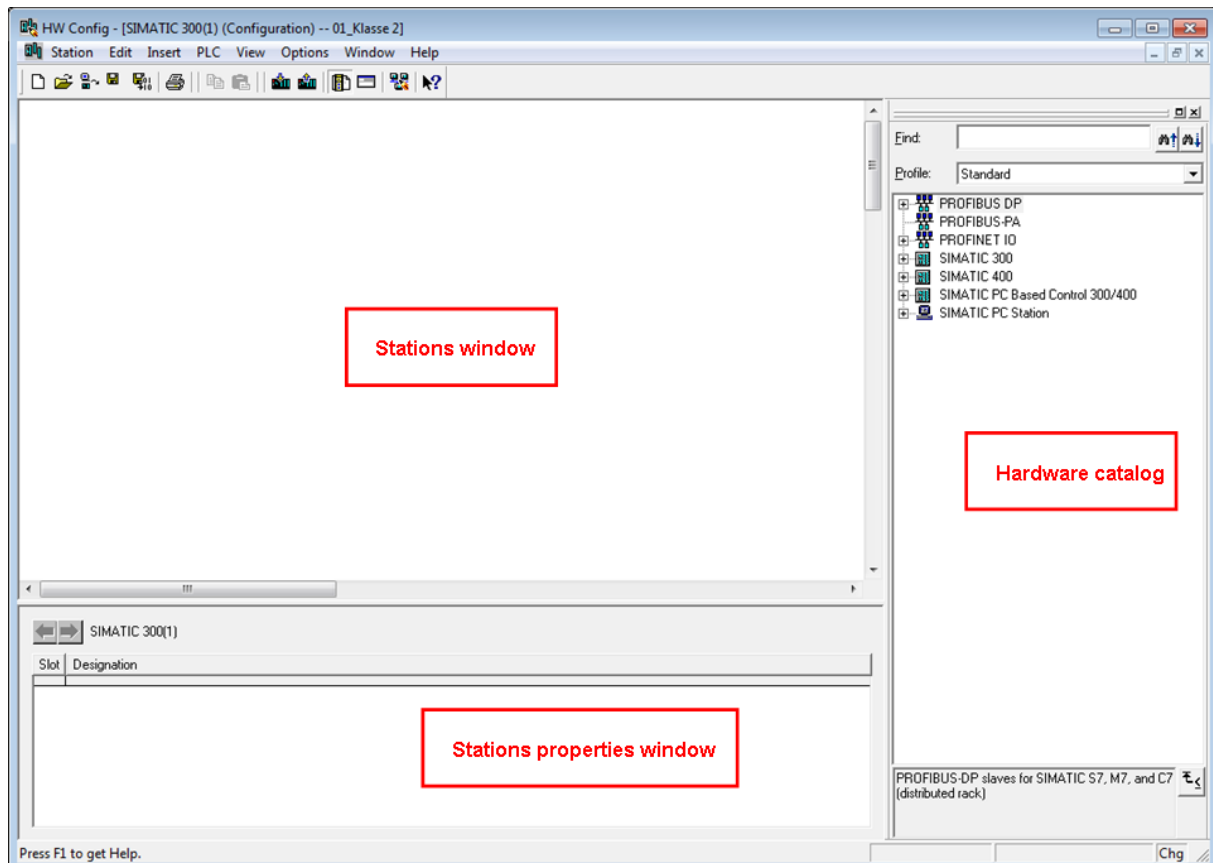

Figure 2.2: Hardware configurator – STEP 7
- The WDGA encoder appears in the "Hardware catalog" under "PROFIBUS-DP", "Other field devices", "encoder", "Wachendorff Automation", "WDGA PROFIBUS Class2" (see Figure 2.2).